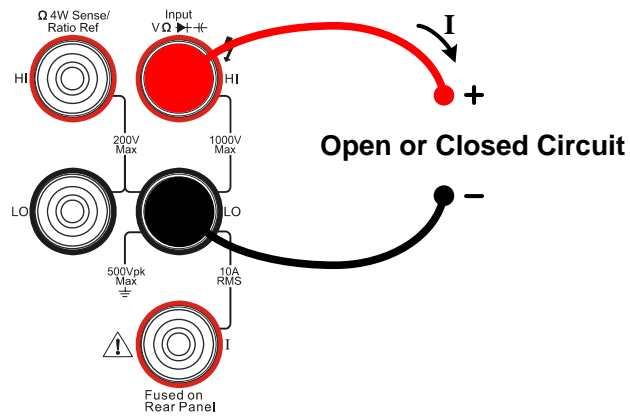

Figure 1-29
1. Connect test leads as Figure 1-29 shown. Red test lead connects the HI Terminal, Black test lead connects the LO Terminal.